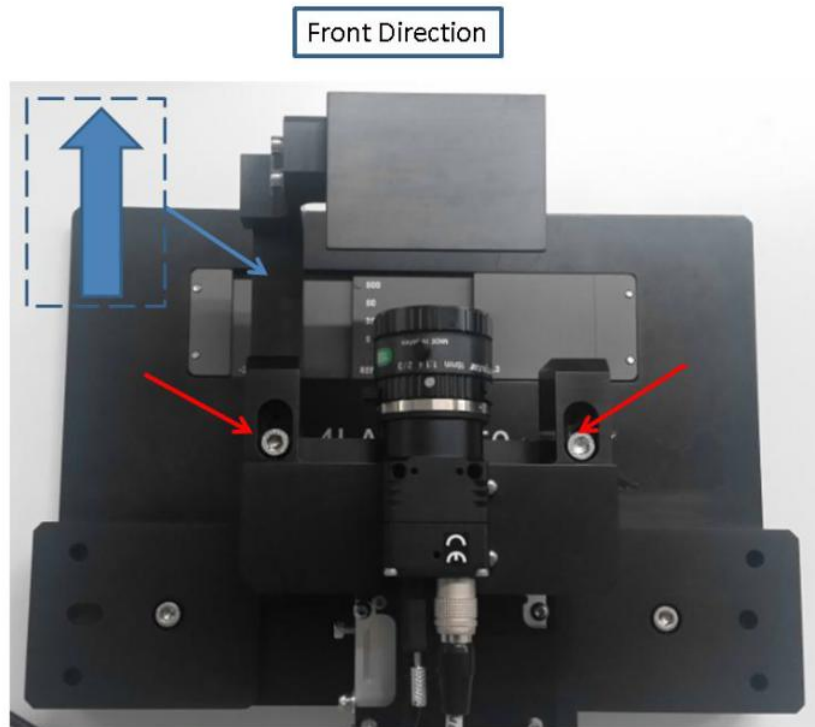

Figure 36 Module Extend towards Front Direction
34. Loosen 2 x Screws and extend the module towards Front Direction as below Figure 36.